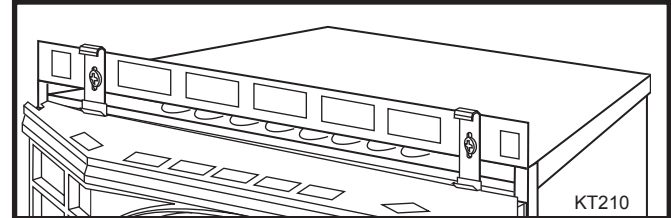

Fig. 53 Hang the window grille or the steel frame onto the lower tabs of the hanging brackets.
4. Install the bay window by hanging it onto the lower tabs of the hanging brackets. (Fig. 53)